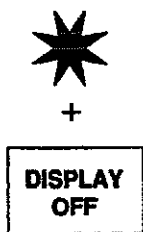

Figure 13
- e. To cancel Temperature Display lights, press START pad (*); press DISPLAY OFF. See Figure 13.